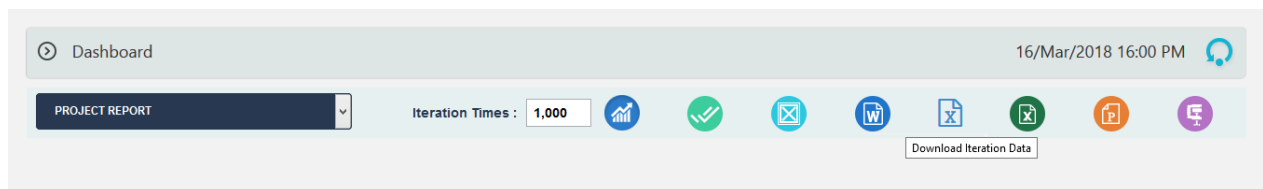

Figure 2.81
3. Click the **Download Iteration Data** icon to export the chart to **MS Excel**. (Figure 2.81)